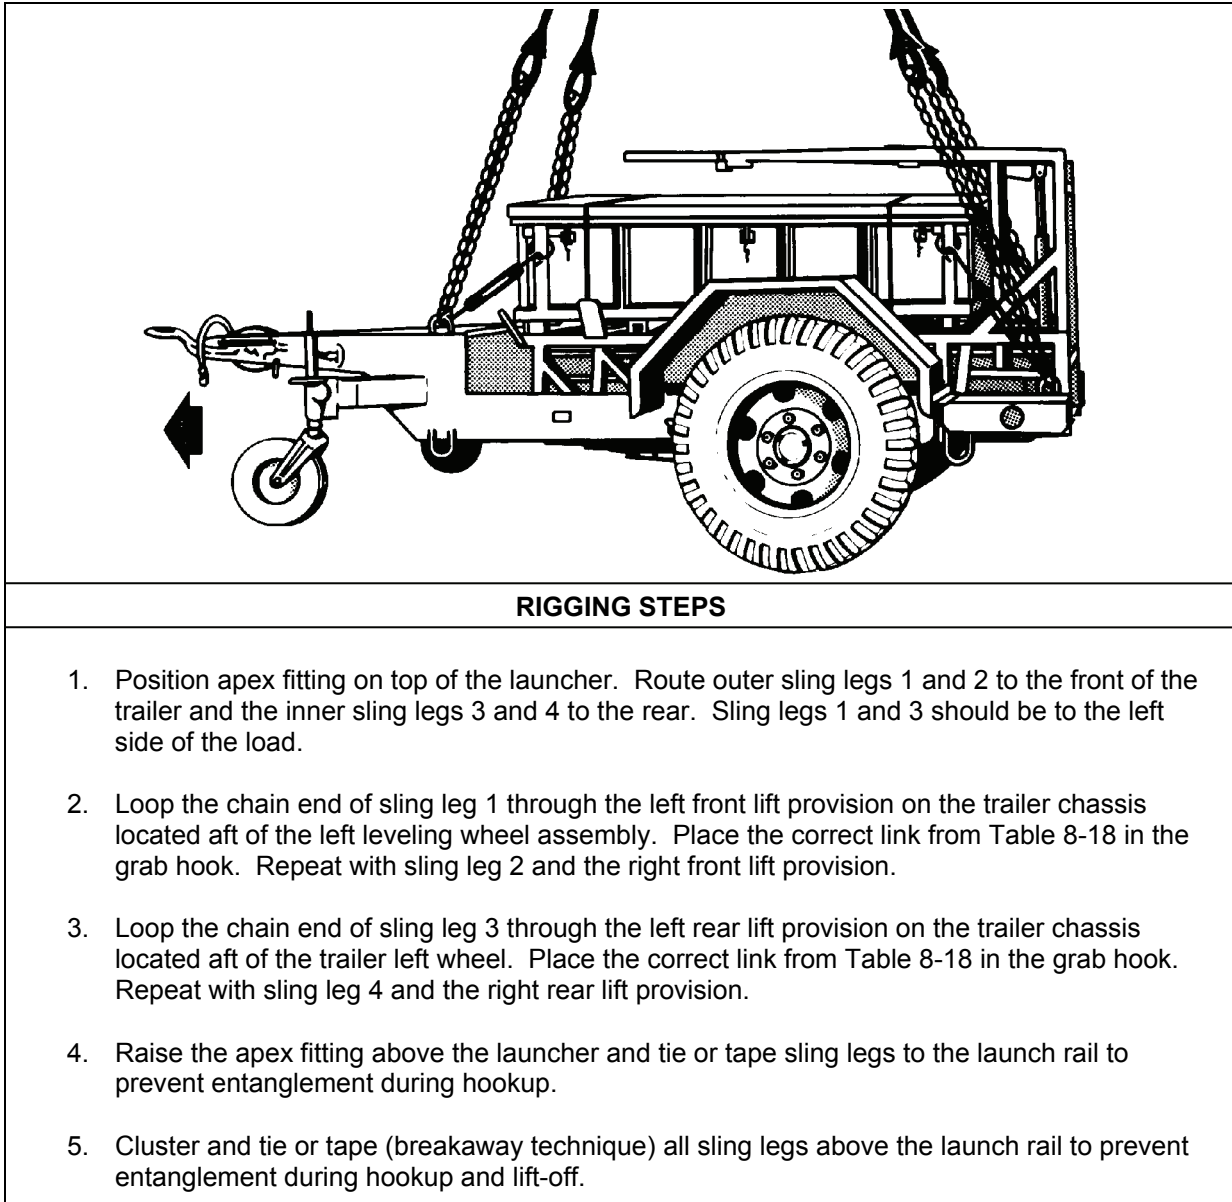

Figure 8-18. Mk155 Launcher on M353 Trailer
- **Rigging.** Rig the load according to the steps in Figure 8-18.